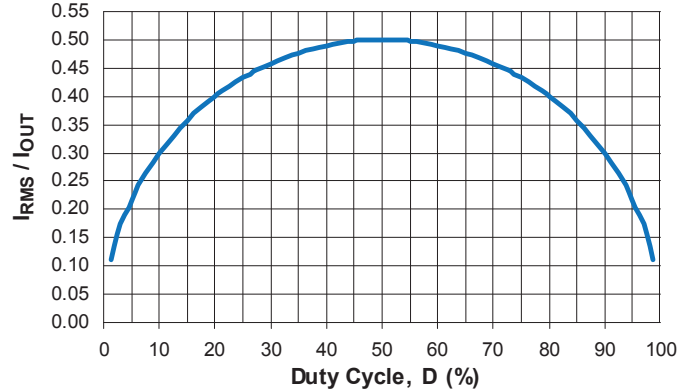

Figure 13: Normalized Input Capacitor Ripple versus Duty Cycle
Figure 13 shows the normalized input capacitor rms current versus duty cycle. To use this graph, simply find the operational duty cycle (D) on the x-axis and determine the input/output current multiplier on the y-axis. For example, at a 20% duty cycle, the input/output current multiplier is 0.40. Therefore, if the regulator is delivering 2.0 A of steady-state load current, the input capacitor(s) must support 0.40×2.0 A or 0.8 Arms.